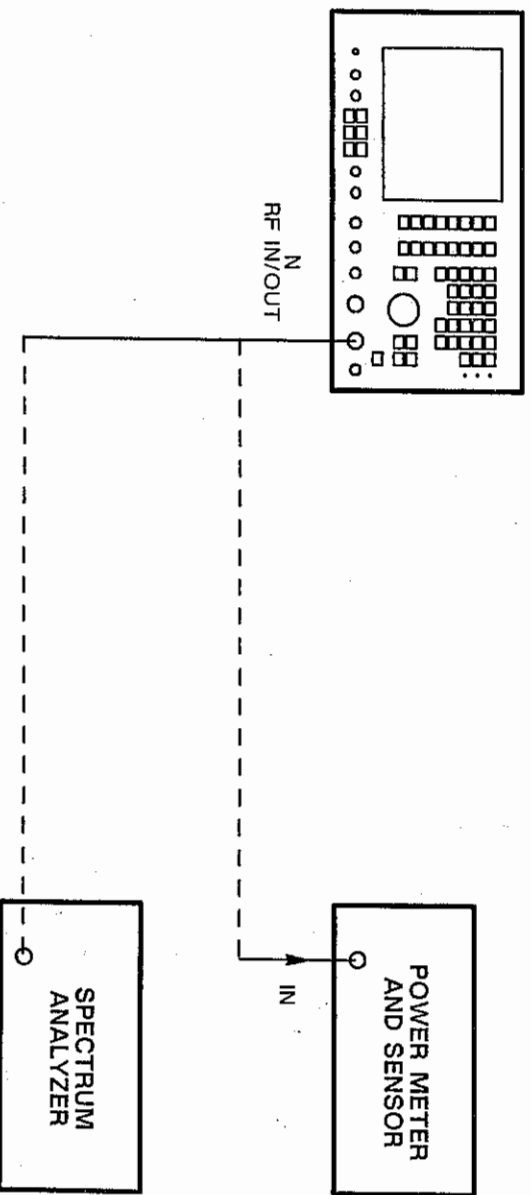

Fig. 6-21 Test equipment connections for RF generator output level
- (1) Connect the power meter through its 6920 sensor to the RF IN/OUT N socket. See Fig. 6-21.
- (2) On the 2955A, set the MODE to RECEIVER TEST, GEN FREQ to 300 MHz, LEVEL to  $-20.5$  dBm, INC to 1 dB, MOD to OFF and RF IN/OUT socket to N.
- (3) On the power meter, check that the reading is  $-20.5$  dBm  $\pm 2$  dB.